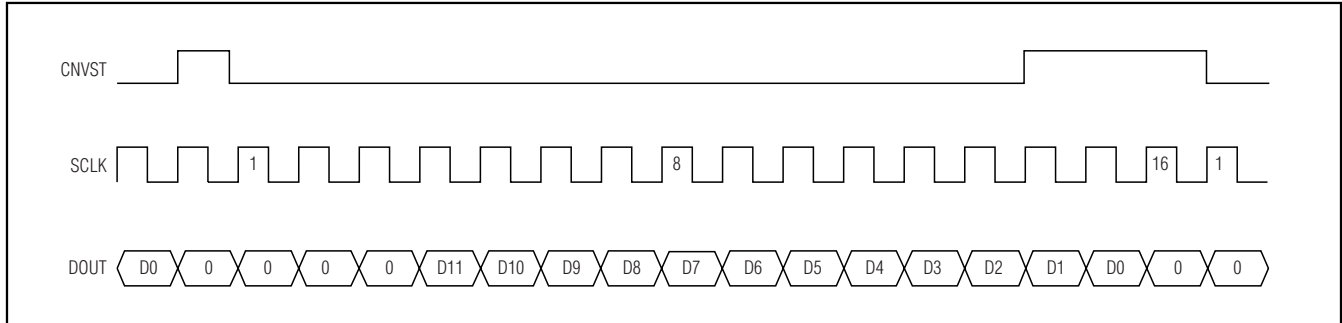

Figure 17. DSP Interface—Continuous Conversion
The MAX1332/MAX1333 can also be connected to the TMS320C54_ by using the data transmit (DX) pin to drive CNVST and the transmit clock (CLKX) generated internally to drive SCLK. A pullup resistor is required on the CNVST signal to keep it high when DX goes high impedance and write (0001)h to the data transmit register (DXR) continuously for continuous conversions. The power-down modes can be entered by writing (00FF)h to the DXR (see Figures 17 and 18).
high frame (LTFS = 0, LRFS = 0) signal. In this mode, the data-independent frame-sync bit (DITFS = 1) can be selected to eliminate the need for writing to the transmit data register more than once. For single conversions, idle CNVST high and pulse it low for the entire conversion. Configure the ADSP21_ _ _ STCTL and SRCTL registers for late framing (LAFR = 1) and for an active-low frame (LTFS = 1, LRFS = 1) signal. This is also the best way to enter the power-down modes by setting the word length to 8 bits (SLEN = 0111). Connect the DVDD pin to the ADSP21_ _ _ supply voltage (see Figures 17 and 18).